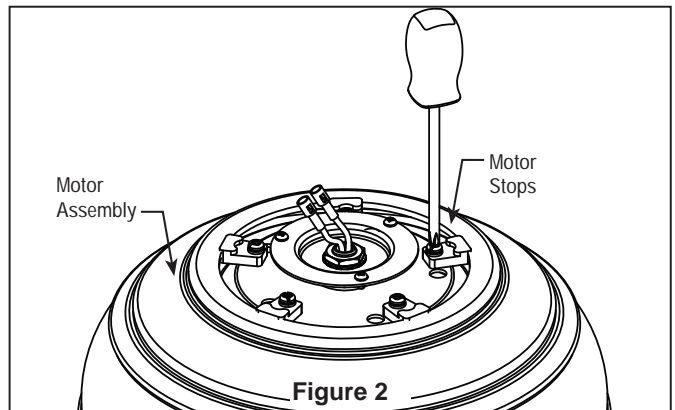

Figure 2
2. Remove and discard the motor stops from the motor assembly by removing the screws. (Figure 2)
2. Disassemble the finial, trim cover and nut from adapter switch cup assembly. (Figure 2)